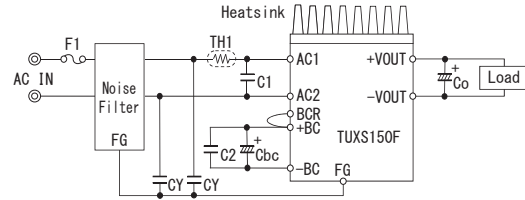

Fig.2.1 Connection for standard use
■ To use TUXS series, connection shown in Fig.2.1 and external components are required.
(1) Co : Output capacitor
- Install an external capacitor Co between +VOUT and -VOUT pins for stable operation of the power supply (Fig.2.1). Recommended capacitance of Co is shown in Table 3.3.